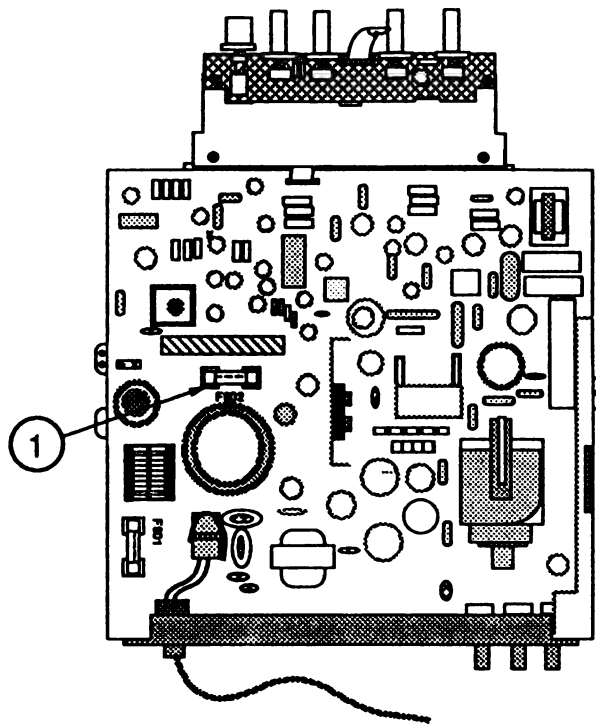

FIGURE 59
6. Check fuse F902 (Figure 59, #1). If fuse F902 is burned out, replace it with a 1 Amp Fast Blow fuse.